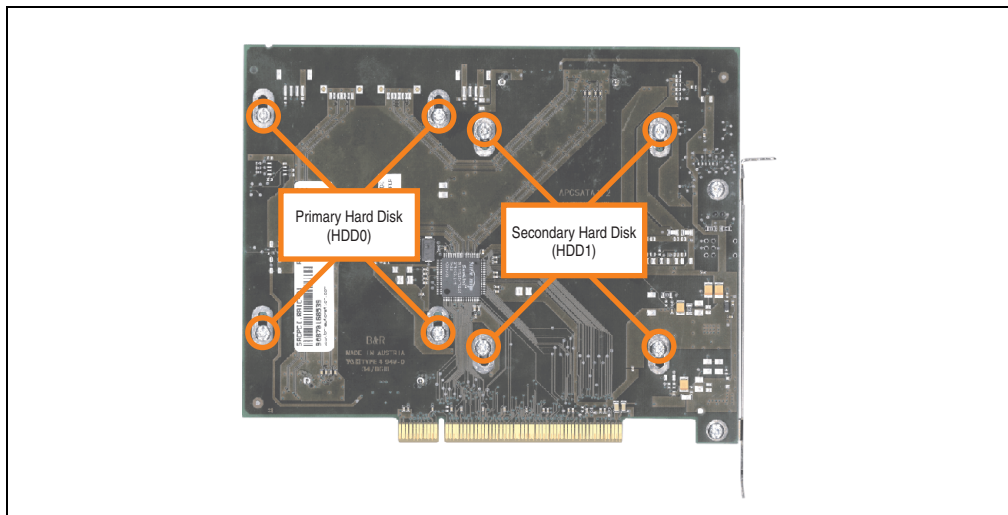

Figure 443: Screw assignment on the back side of the SATA RAID controller
- Loosen the 4 appropriate mounting screws (M3x5) - see Figure 443 "Screw assignment on the back side of the SATA RAID controller", on page 757.